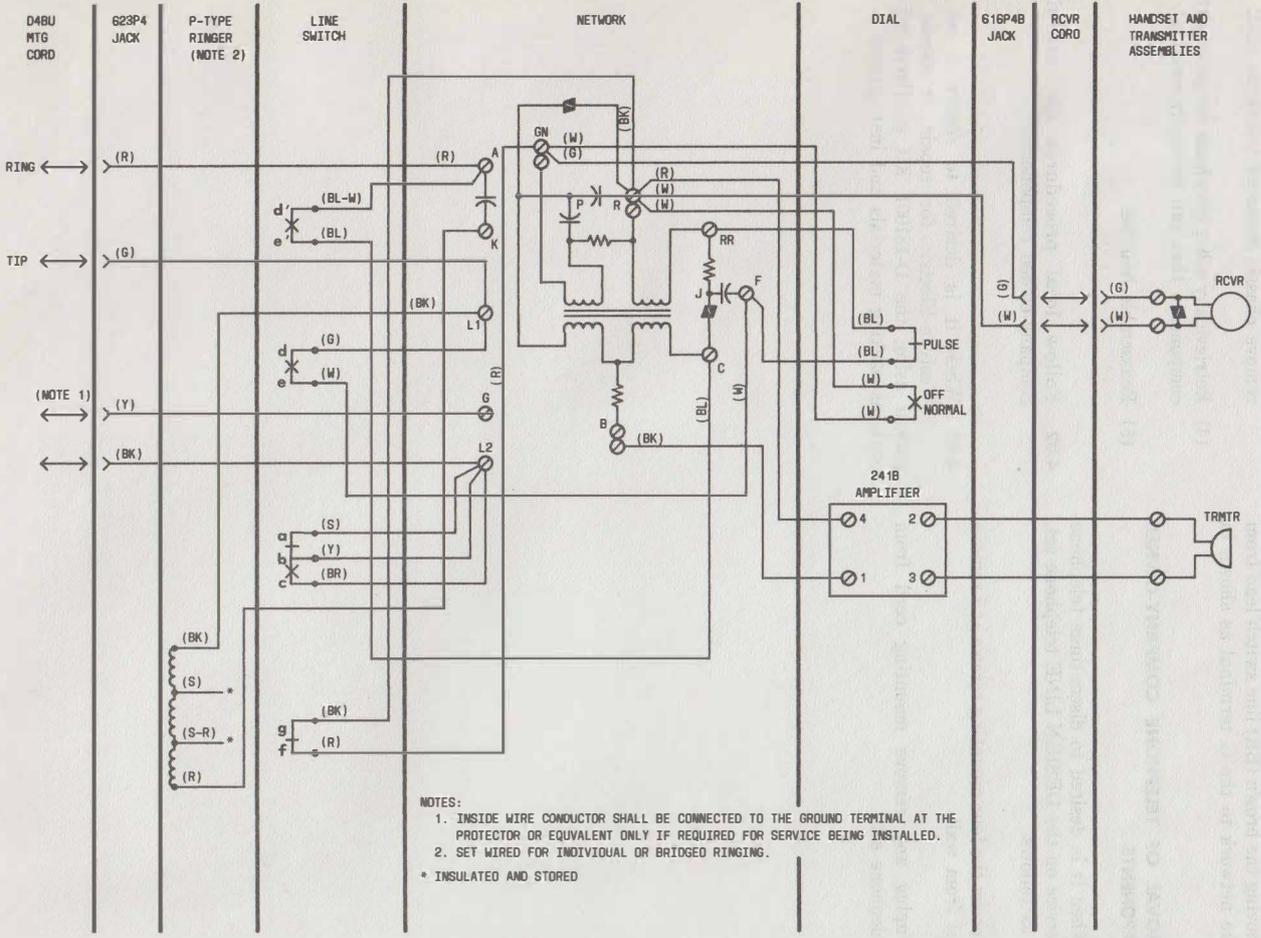

Fig. 4—952A1-03 Telephone Set, Connections
(1) Refer to Table A for party line connections.
(2) For adjustments and ringer cut off feature of the P-type ringer, refer to Section 501-259-101.
3.06 Connections for 1A KTS require no telephone set modifications and are wired the same as Fig. 4.